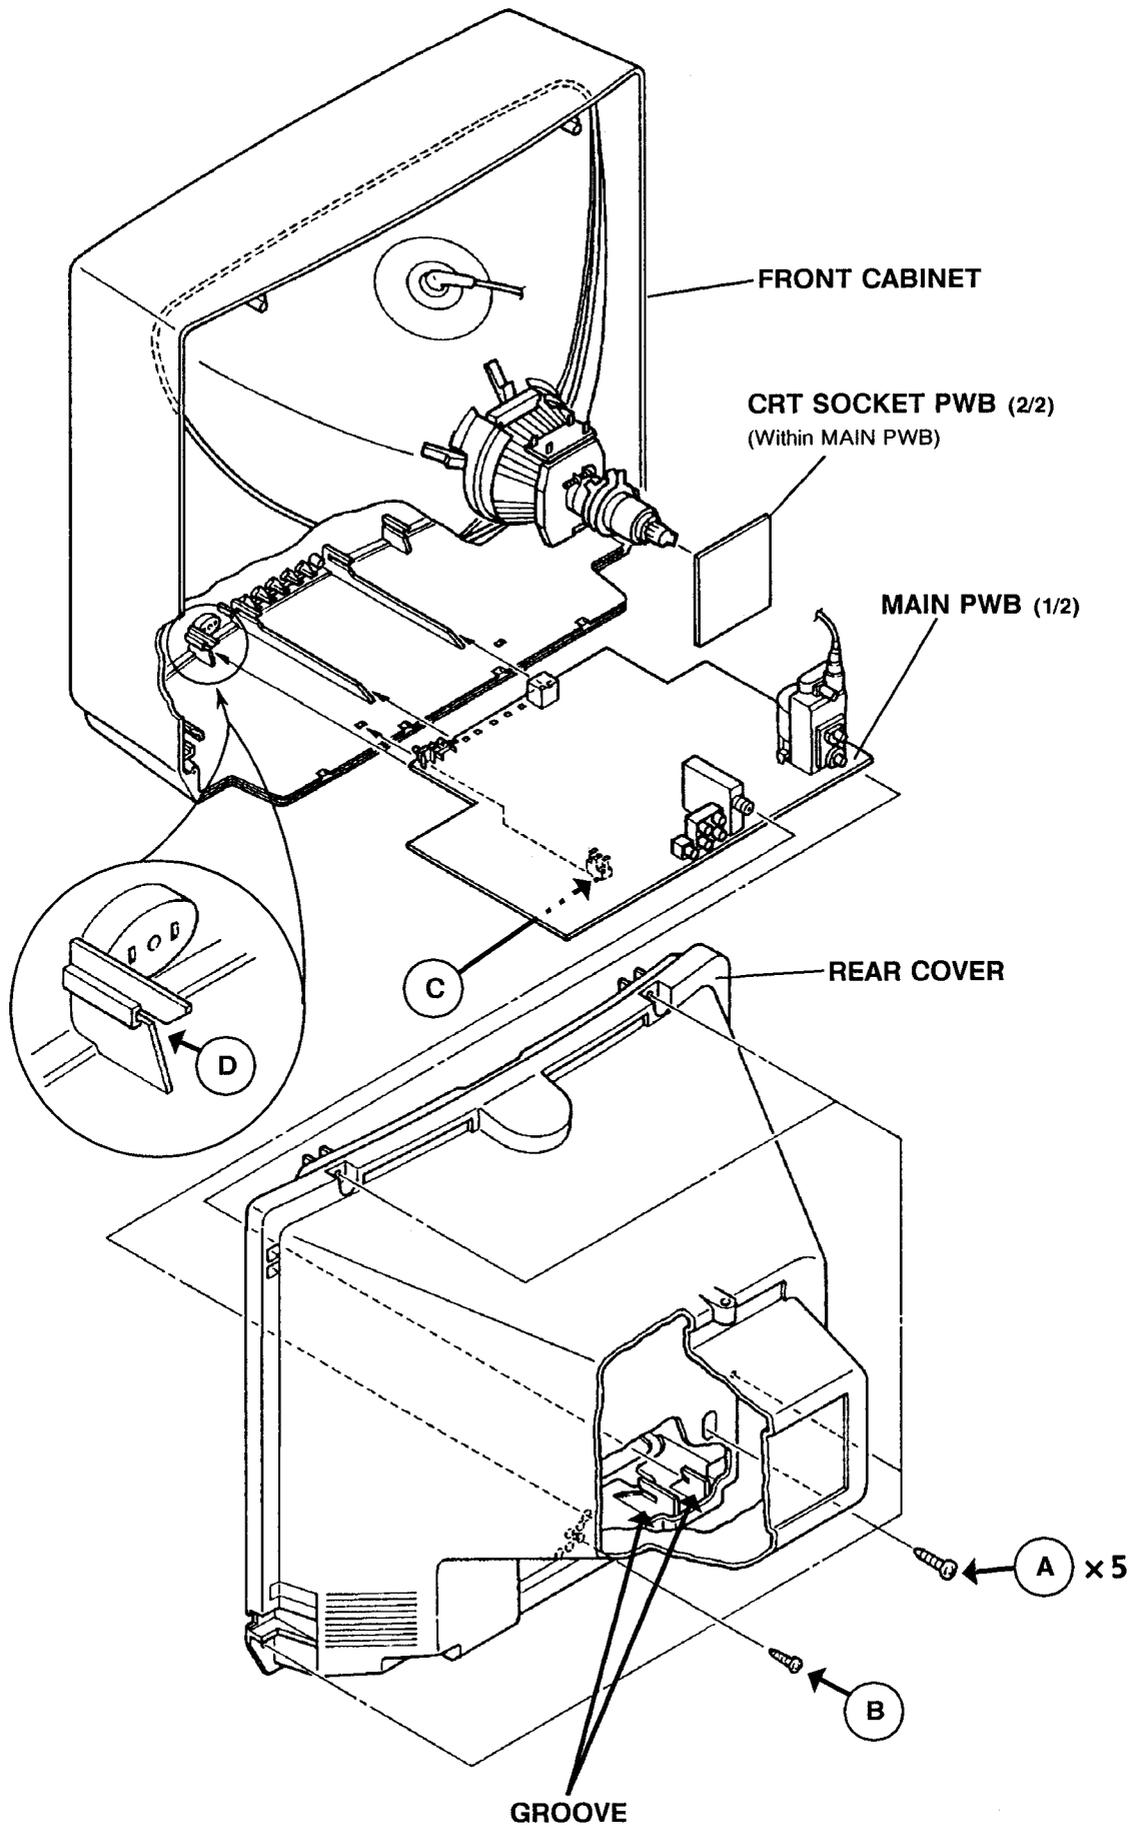

Fig. 1
- If reinstall the MAIN PWB, first insert the left edge of the MAIN PWB to the groove marked (D) as shown in Fig.1, and push it forward.